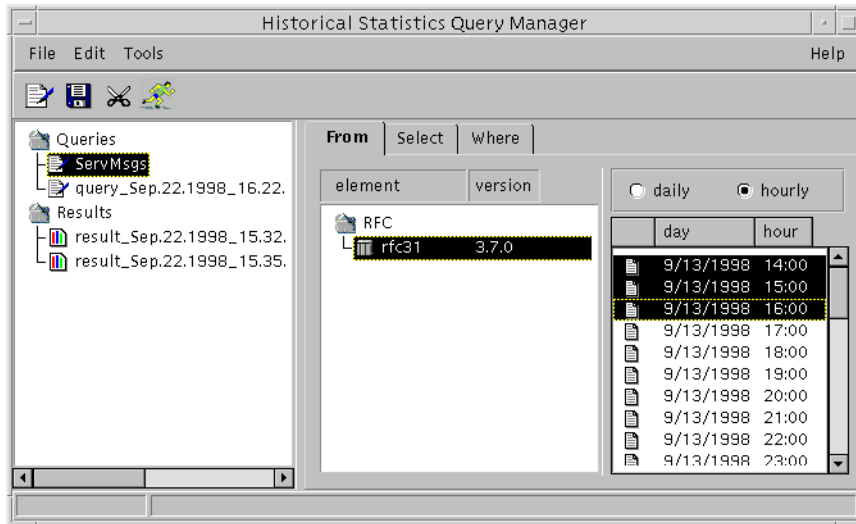

Figure 7-11: Specifying the From Clause
1. When you select the **From** tab, the From Clause panel appears (see Figure 7-11).